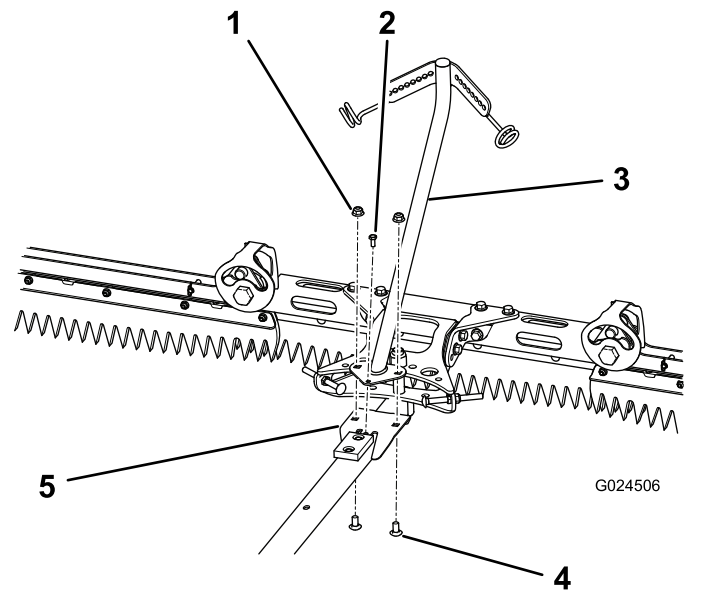

Figure 8
1. Align the holes in the plate at the bottom end of the boom assembly with the holes in the plate near the rear of the drawbar (Figure 8).